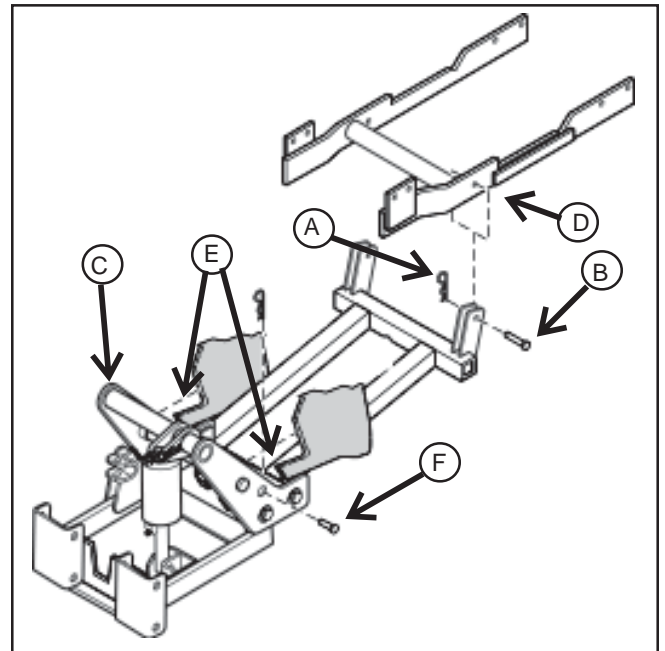

Figure 1. Hitch to Tractor Installation
1. Lift the hitch assembly (C, figure 1) slide onto the slots on tractor (E). Lift back of hitch assembly to frame (D) and install clevis pins (B), clevis pins (F) and hair pins (A).